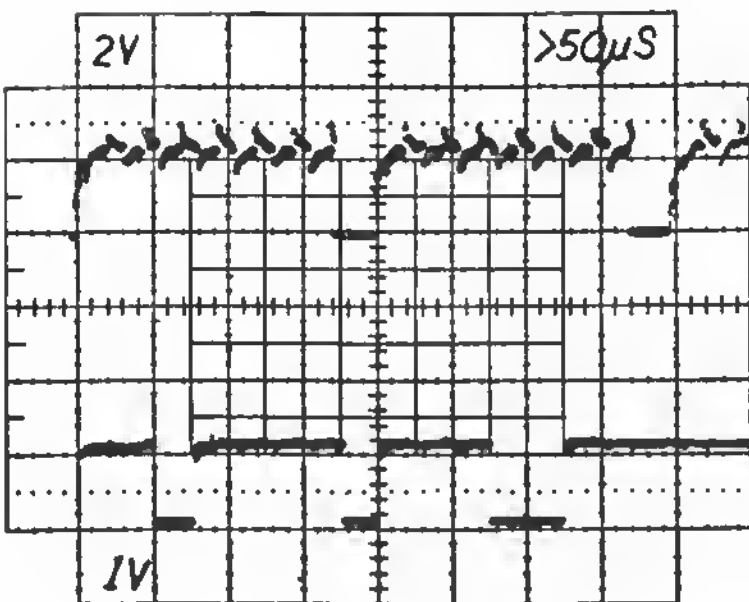

Fig. 3-4
Fig. 3-3 and Fig. 3-4 are I Bus samples. Word 1 (BV) is identical in each sample but Word 2 shows AE mode in Fig. 3-3 and BCK (battery check) mode in Fig. 3-4.
| Fig. 3-4 | 0 | 1 |